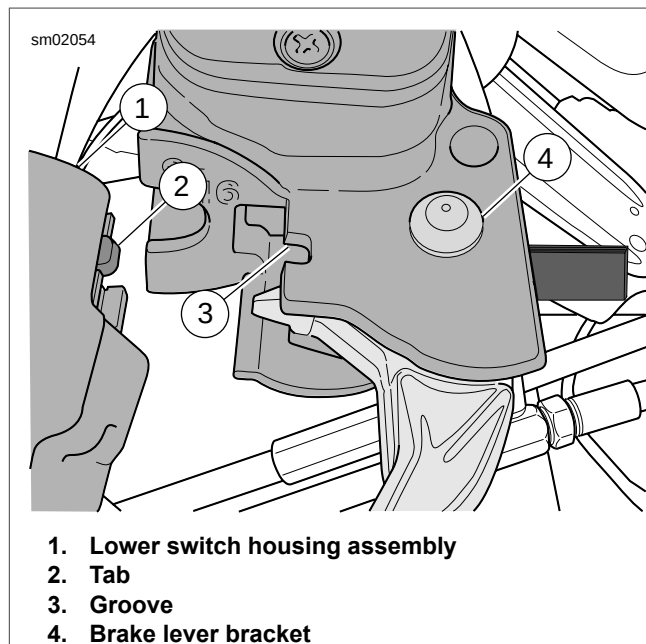

Figure 2-38. Master Cylinder and Brake Lever To Handlebar Switch Housing (typical)
1. See Figure 2-38. Position brake lever/master cylinder assembly inboard of switch housing assembly engaging tab (2) on lower switch housing (1) in groove (3) at top of brake lever bracket (4).
2. Install cardboard insert (2) between brake lever and reservoir housing.